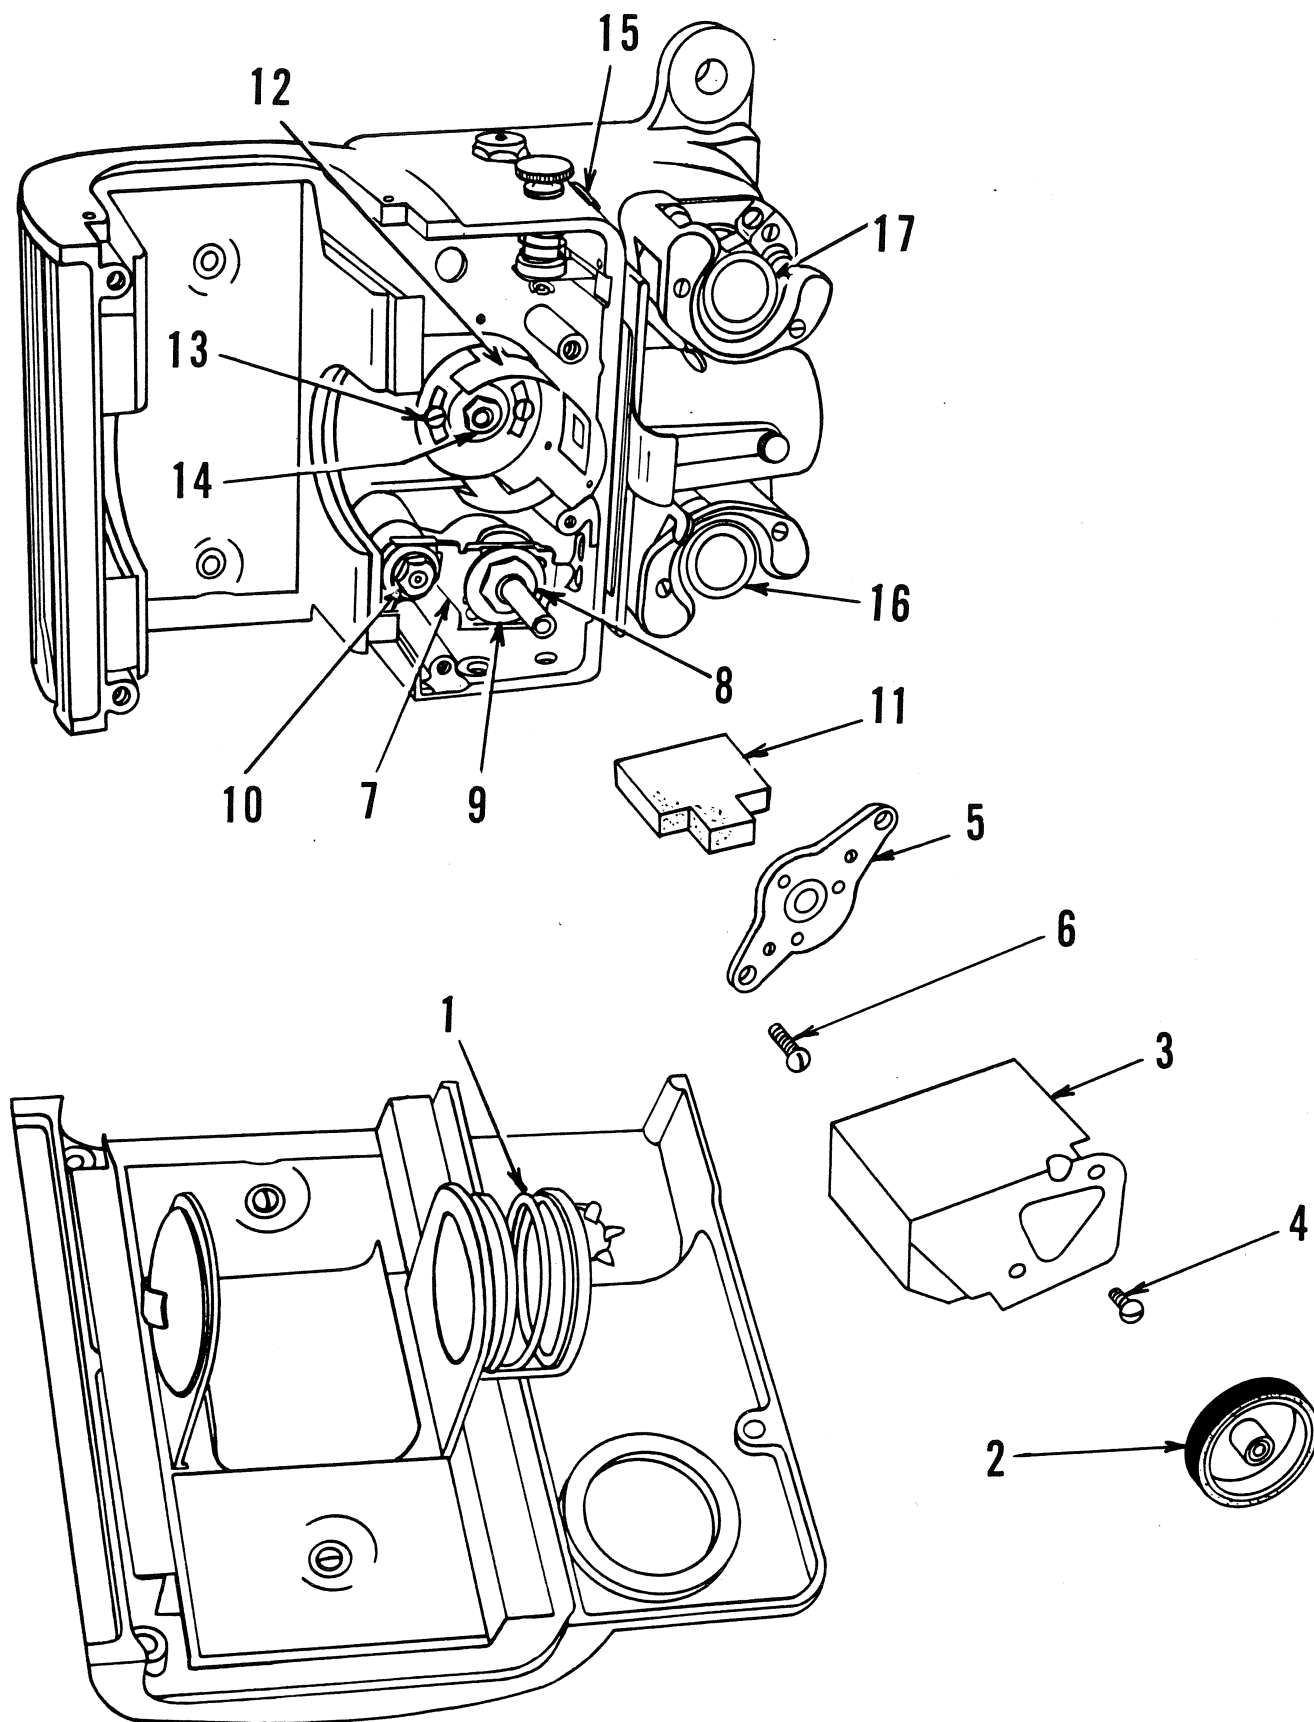

Figure 4 - MECHANISM (Exploded view)
- a. Intermittent Compartment (See Fig. 4) - Remove the front cover and run the drive belt off of the front edge of the pulley. Loosen the setscrew located in the hub of the drive pulley assembly (2) and pull off the pulley. Take out the two screws (4) which hold the shuttle shield (3) and remove the shield. Take out the two screws (6) that hold the vertical camshaft bearing assembly (5) in place and remove the bearing assembly. Pull out the shuttle oil pad (11).